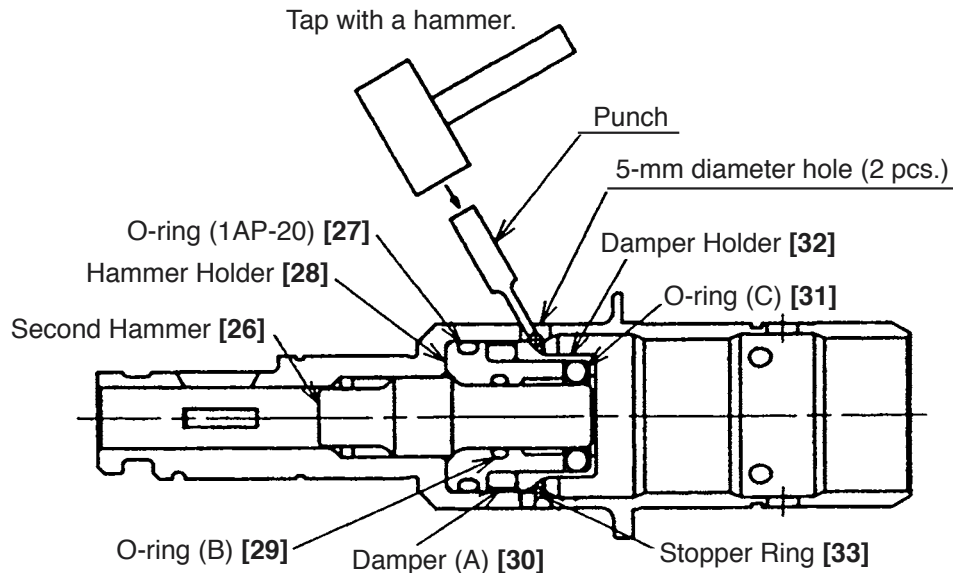

Fig. 14
(4) Disassembly of the cylinder and the second hammer
Remove the Stopper Ring [33] from the inside diameter portion of the Cylinder [21]. Then the Second Hammer [26], O-ring (1AP-20) [27], Hammer Holder [28], O-ring (B) [29], Damper (A) [30], O-ring (C) [31] and Damper Holder [32] can be removed from the Cylinder [21]. Remove the Stopper Ring [33] from the groove of the inside diameter portion of the Cylinder [21] by tapping the Stopper Ring [33] through the 5-mm diameter hole of the Cylinder [21] with a hammer and a punch as shown in Fig. 14. At reassembly, replace the Stopper Ring [33] with new one as the removed Stopper Ring [33] is deformed. To prevent idle hammering, also replace O-ring (C) [31] with new one at reassembly.